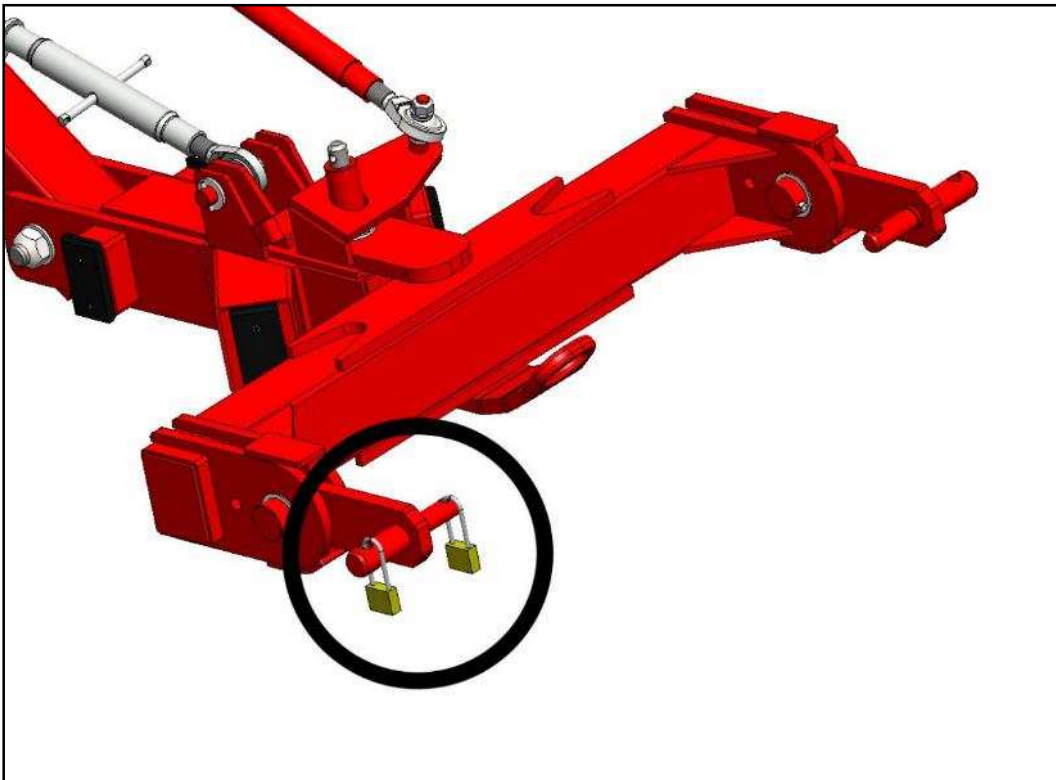

Figure 32
- Insert locks against unauthorized use (see *Figure 32*)